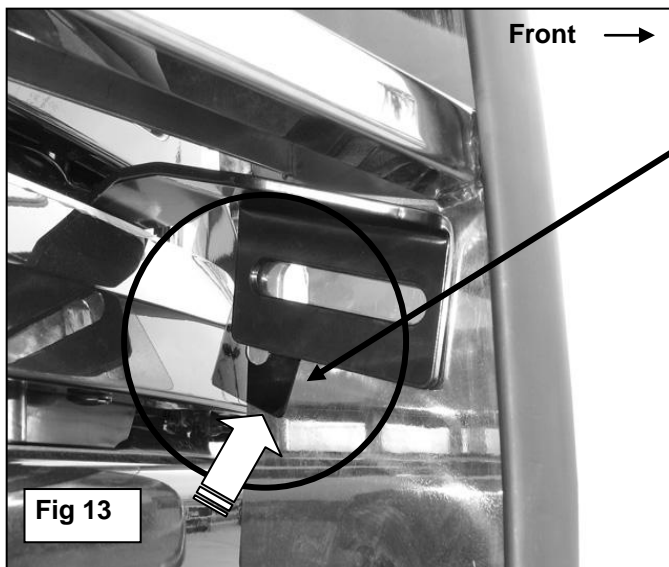
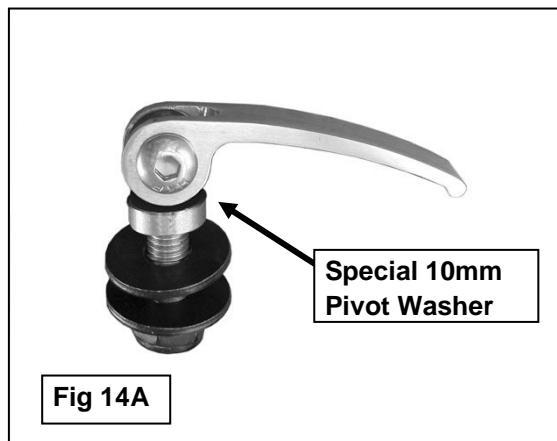

Fig 13
Fig 14A
10. Next, line up the slotted end of the driver side Top Bracket with the hole in the Grille Guard upright. Insert (1) 10mm Plastic Washer between the Top Bracket and the Grille Guard, **(Figure 13)**. Line up the hole in the Plastic Washer with the hole in the Grille Guard and the slot in the Top Bracket. Insert (1) 10mm Quick Release Bolt, (1) 10mm Special Pivot Washer and (1) 10mm Flat Washer through the upright on the Grille Guard first and on through the Plastic Washer and Top Bracket. Secure the Quick Release Bolt with (1) 10mm Plastic Washer, (to protect the finish on the Top Bracket), (1) 10mm Flat Washer and (1) 10mm Nylon Lock Nut, **(Figures 14A & 14B)**. Do not tighten hardware at this time.